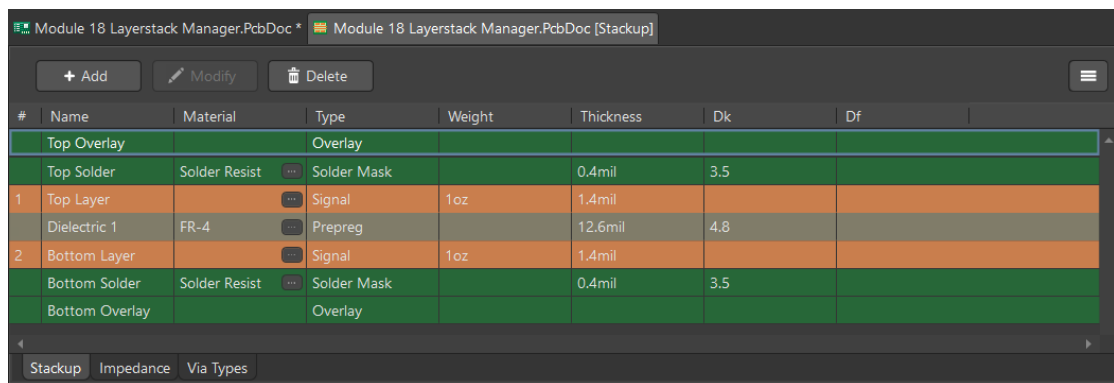

Figure 1. Layer Stack Manager
- a) A new document will appear as shown in Figure 1 below.